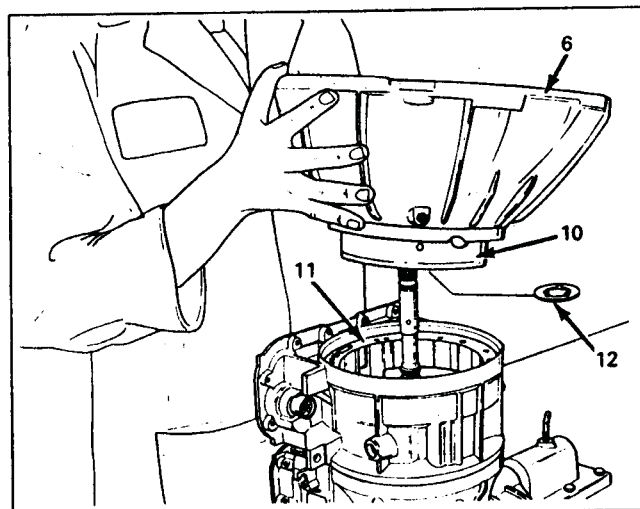

Figure 38
4. Firmly grasp the converter housing and remove converter housing and the oil pump assembly (See Figure 38).
5. Remove the oil pump to main case gasket, and selective thrust washer. (See Figure 38).